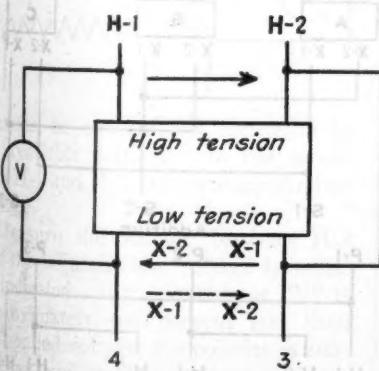

Fig. 1—Test connections
A. TO QUESTION 182—Voltage ratio can be checked by connecting what is believed to be the high tension terminals to a 220 volt line and measuring the voltage across the other terminals. Caution should be exercised until the high tension terminals are positively identified. Then they can be marked H-1 and H-2 as shown in Fig. 1.
To proceed with polarity testing, H-2 is connected to 3 as shown in Fig. 1. After connecting H-1 and H-2 to a 240 volt line, the voltage between H-1 and 4 is measured. If the reading is found to be 264 in this case, the connections are additive, indicating the